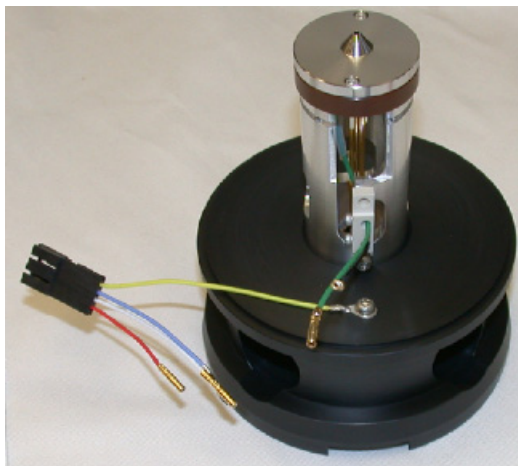

Figure 74 Skimmer spacer
- c Leave the yellow wires attached to **skimmer spacer** (Figure 74). Leave the **ion optics** in the **skimmer spacer** and use it as a stand to remove **lens 2**, **spacer insulator**, and **lens 1**. Be careful not to damage the **octopole rods**.